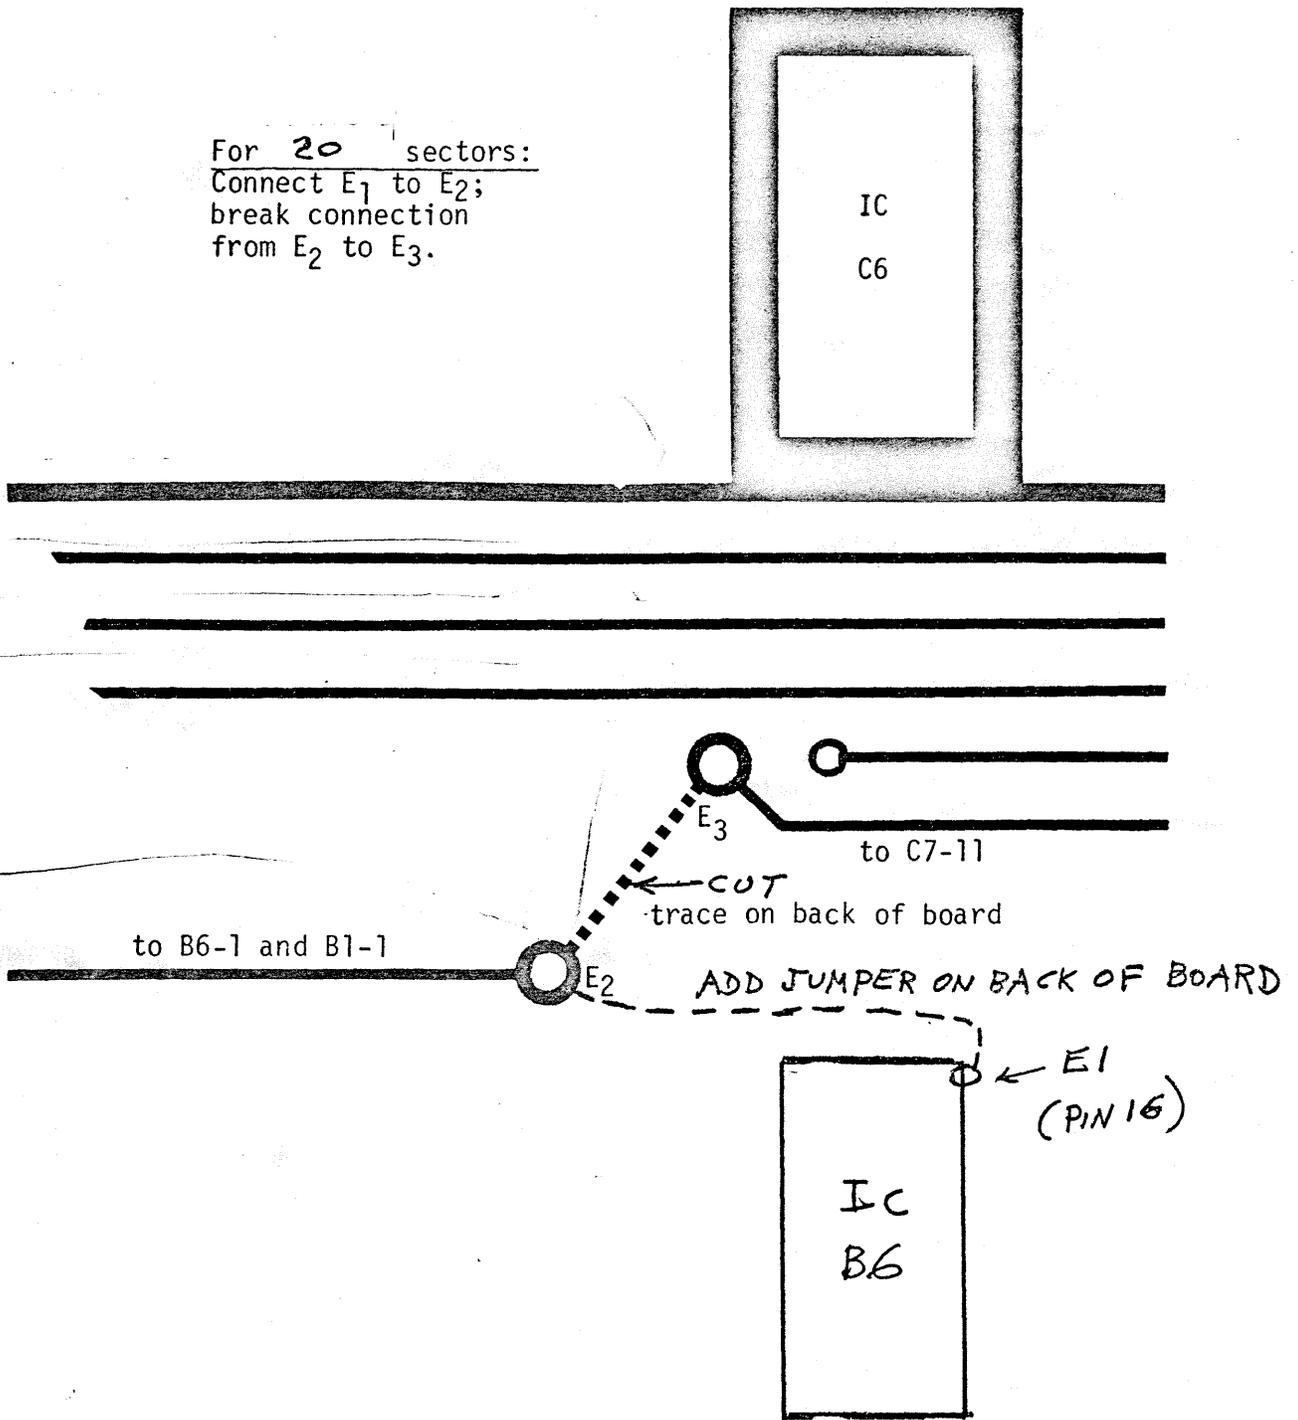

Figure 3-7. Sector Format Change on Coupler Card
**3.1.7.4 Sector Format Changes.** The XFD-108 normally comes with a 12-bit word, and 10 sectors of 256 words each on 64 tracks. To change to allow 20 sectors, it is necessary to disconnect B6-1 from C7-11 and reconnect B6-1 to  $V_{cc}$  as shown in Figure 3-7.